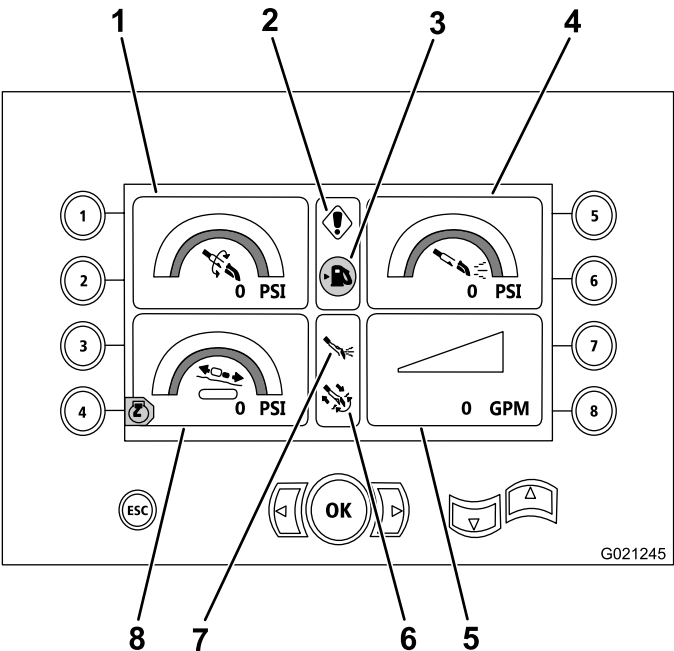

Figure 16
This screen provides measurements on rotary pressure in psi, drilling-fluid pressure in psi, carriage pressure in psi, and drilling-fluid flow rate in gpm (Figure 16).
- Drilling and/or engine-error code warning (Figure 16)
- Low-fuel warning (Figure 16)
- Drilling fluid is in the On position (Figure 16)
- Auto drilling is in the On position (Figure 16)